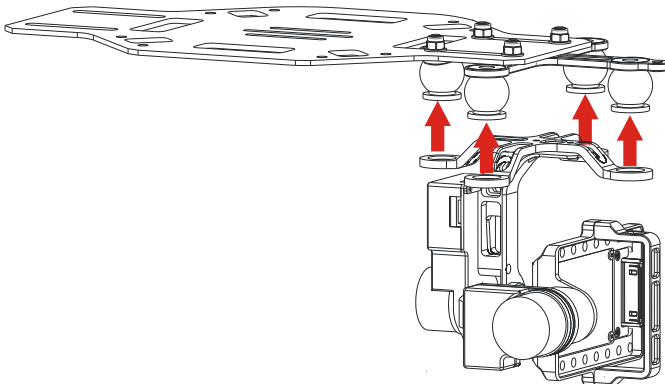

Fig.5
5. Attach the Vibration Absorber to the Bottom Board of Damper Unit shown in Fig.5.